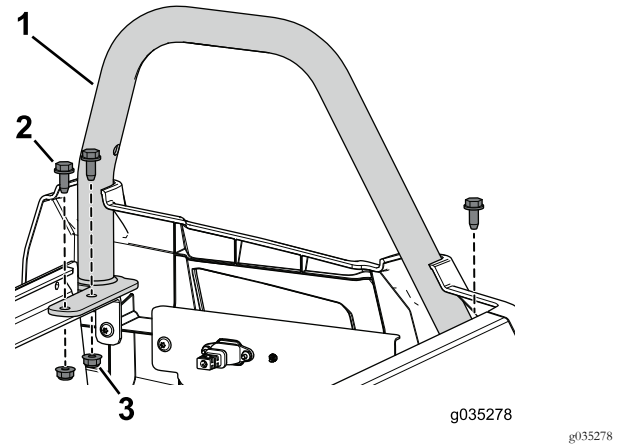

Figure 91
12. Use the 3 flange bolt (3/16 x 3/4 inch) and flange nuts that you removed earlier to secure the left rear-hip restraint to the seat base assembly (Figure 91).